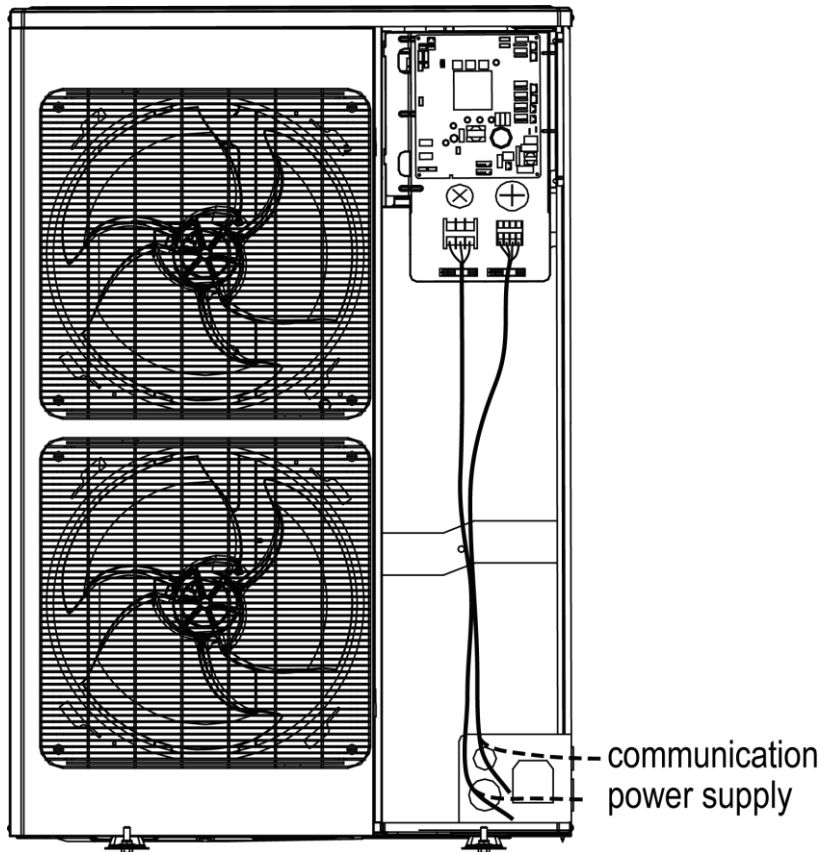

Fig. 29 Engineering Wiring View of GMV-H224WL/A-X and GMV-224WL/C-X
- (1) Please refer Fig. 29 and 30 for engineering wiring. If there is the hole for cable tie in wiring route, please fix the wire with cable tie. Connect the power cord and communication cable to the corresponding terminal board and grounding screw according to the wiring diagram.
- (2) Please be noted that engineering wiring cannot touch the pipe and appliance.
- (3) This figure is only applicable for engineering wiring reference of power supply and communication cable. If there are differences between the figure structure and actual unit, please refer to the actual unit.
- (4) For engineering wiring, please refer to the wiring diagram provided with the unit.